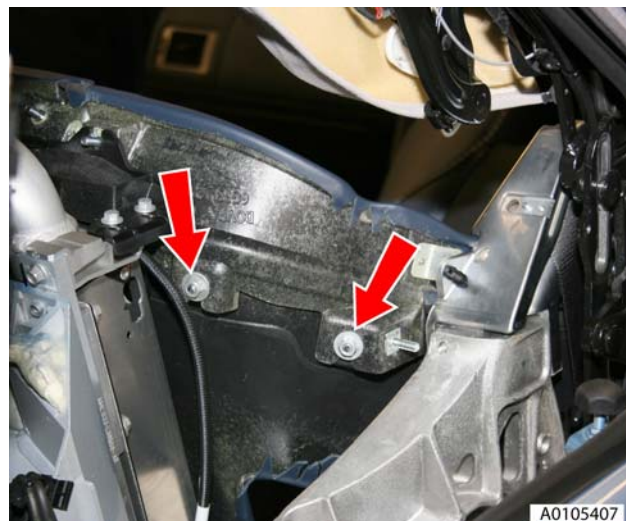

Figure 2
4. Remove nuts securing trim to ROPS bracket (see Figure 2).